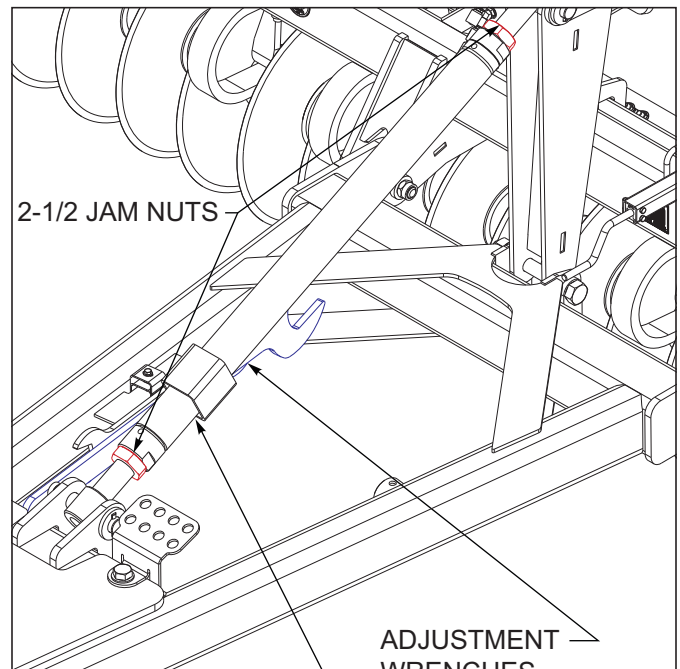

Figure 4-3: Radius Rod Leveling Adjustment
1. Raise the unit to take the weight off of the transport locks. Remove the transport locks from the lift cylinders (on both left and right sides). Store the transport locks on the retainers above the main lift *See Figures 4-3.*
3. To adjust the leveling feature, loosen jam nuts at each end of the radius rod using the adjustment wrenches *See Figure 4-3.* To raise the front of the Coulter Chisel, lengthen the radius rod assembly. To lower the front of the Coulter Chisel, shorten the radius rod assembly. After adjusting, re-tighten jam nuts at each end. Adjustments should be made in small increments.